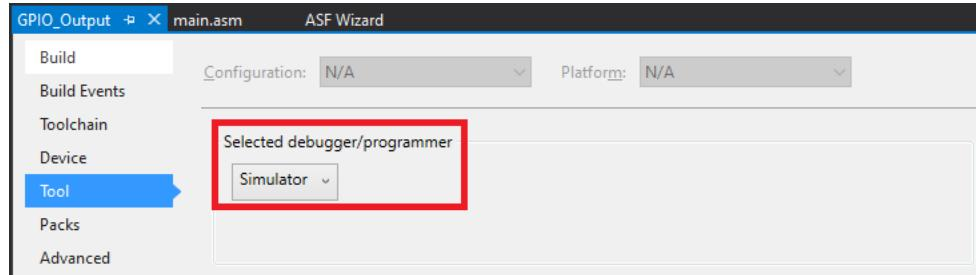

Figure 10: Selecting the Debugger.
4. Under *Selected debugger/programmer*, use the dropdown menu to select *Simulator* as shown in *Figure 10*. The target selector icon should now display *Simulator*. Finalize these changes by saving the project (**File** → **Save All**) and then close the project properties window.